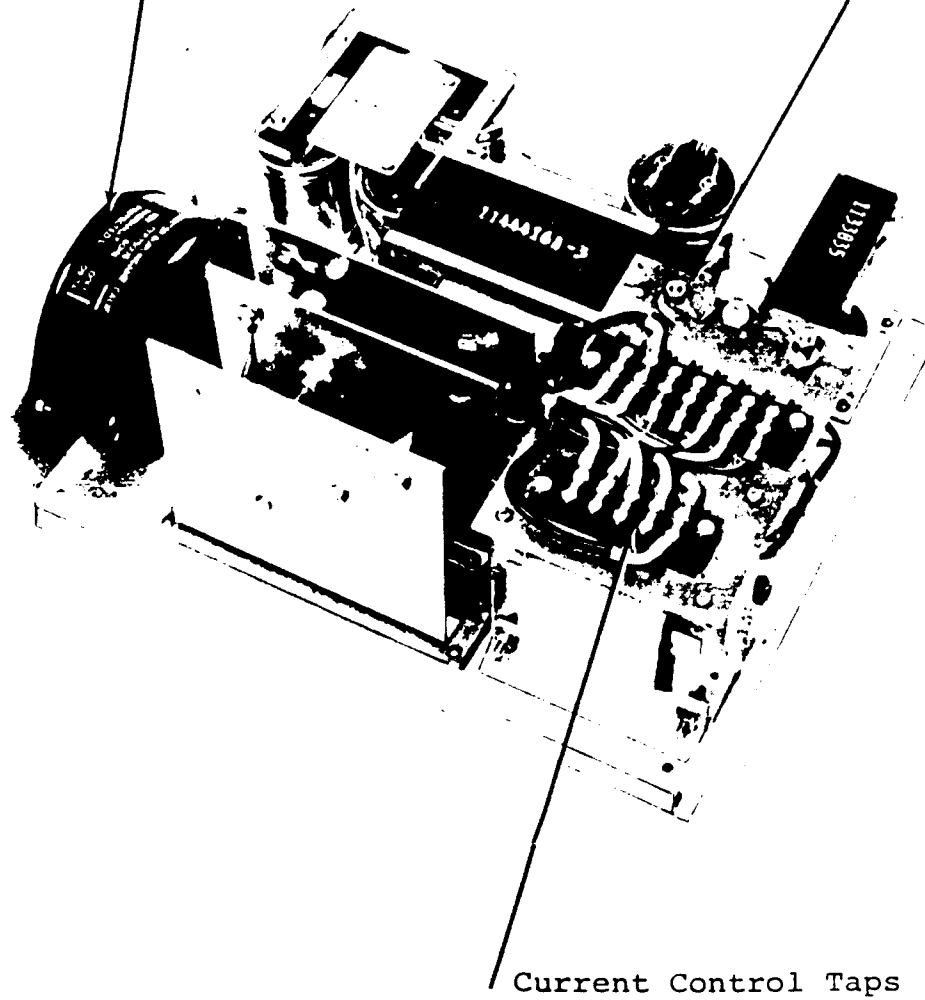

FIGURE 4-3
1000 WATT AND 1600 WATT POWER SUPPLIES (See Figure 4-3)
- b. Remove the lower panel on the operator side of the console and locate the interconnecting terminal board on the power supply (see Figure 4-3).